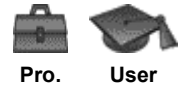

**Figure 3–10**
26. Click  (Zoom Extents All). In the Perspective view, the scene displays as shown in Figure 3–10.